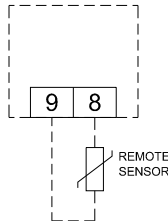

Fig. 3.
- In case the remote sensor is required, make the electrical connections following the connection diagram as in Fig. 3.